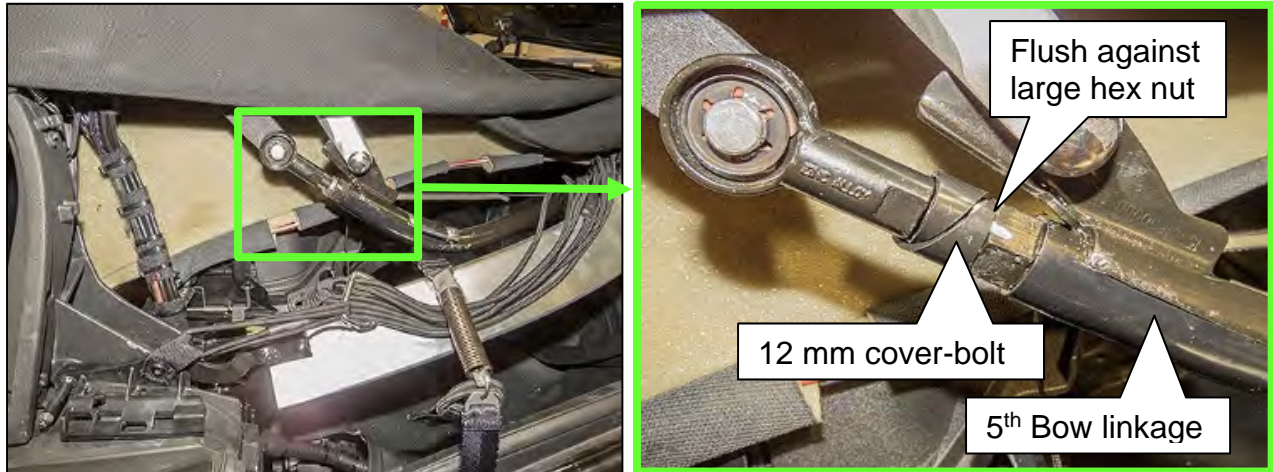

Figure 34
41. Install the 12 mm cover-bolt onto the 5th Bow linkage (Figure 34).